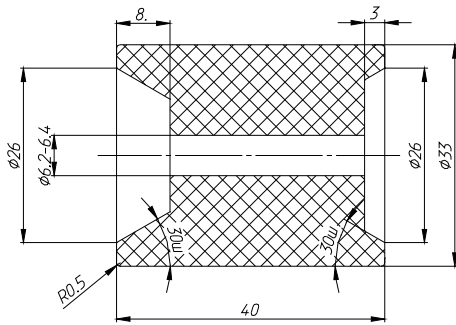

Fig. 2
- 7) solid roller (see fig. 2);